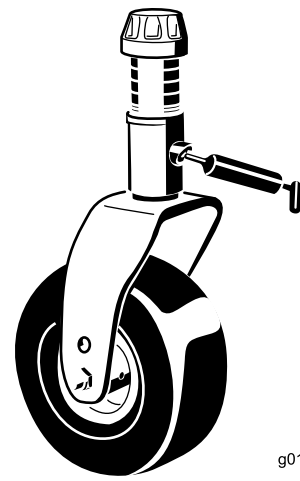

Figure 42
- Castor fork shaft bushing (1) (Figure 42)
- Idler arm pivot bushings (1) (located on the idler arm)